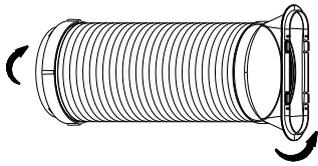

Fig. 18
1. Install the window Exhaust adaptor B onto the exhaust hose as shown in Fig. 18. Refer to the previous pages for window kit installation.